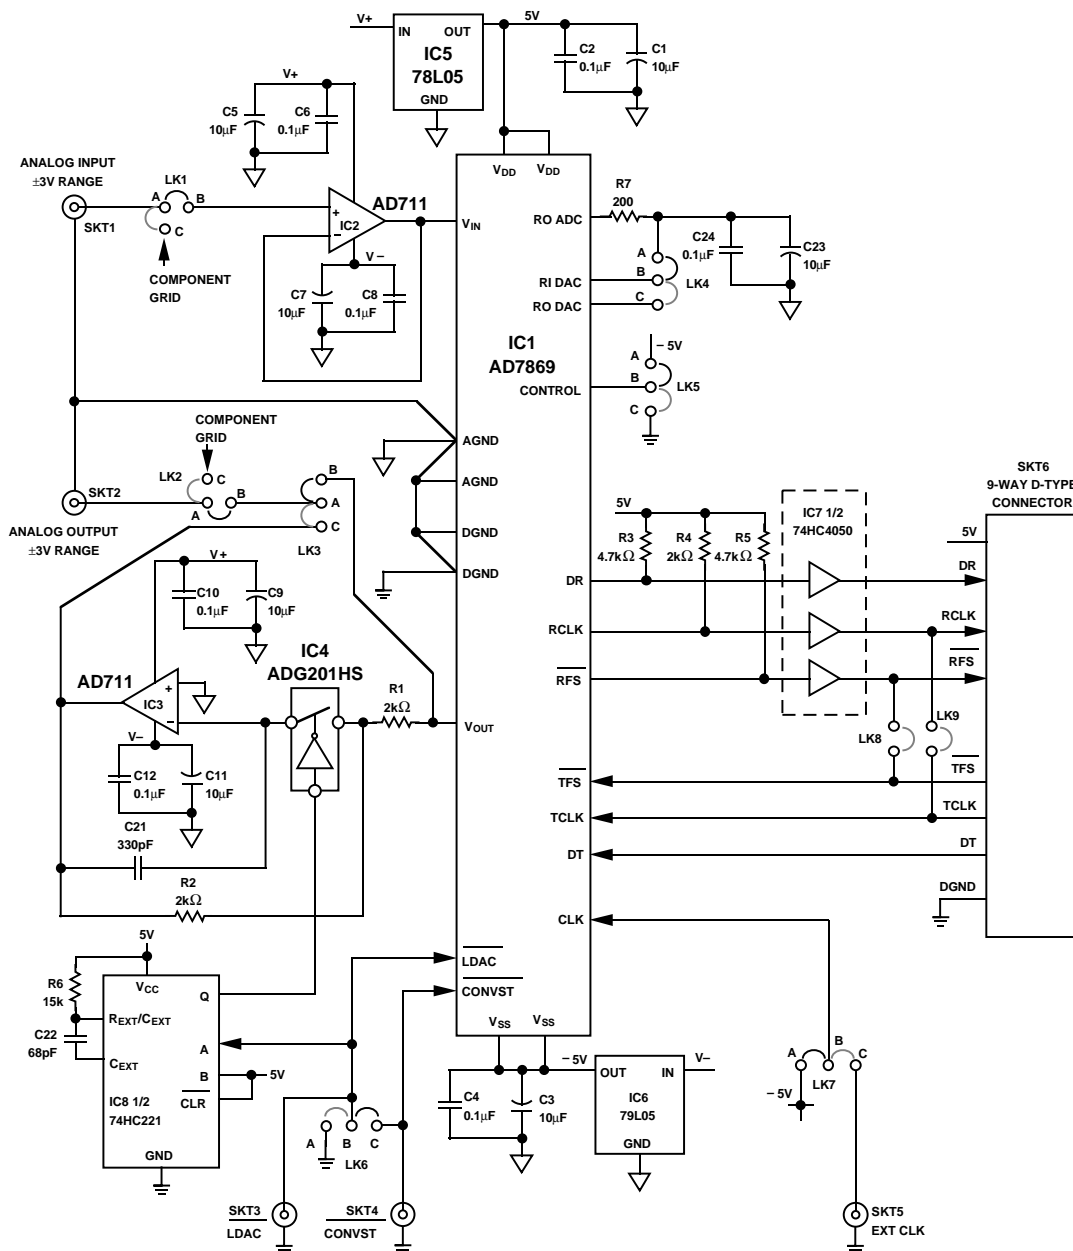
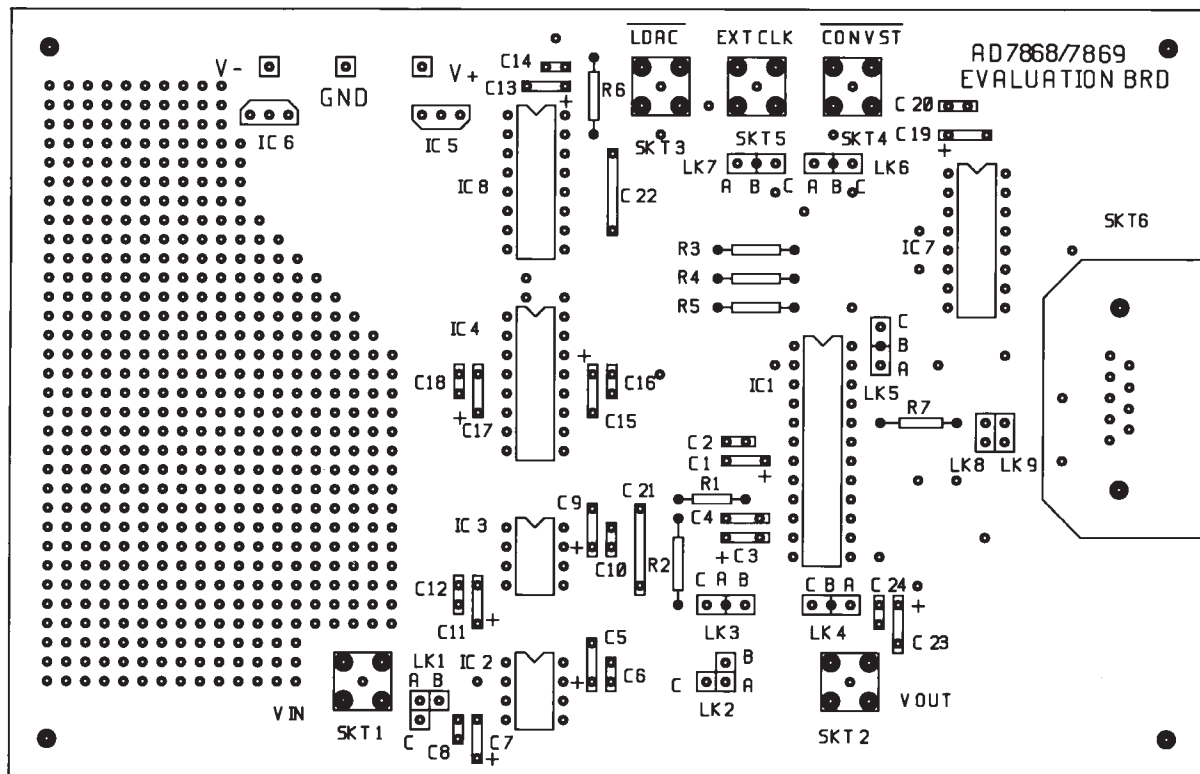

Figure 19. Input/Output Circuit Based on the AD7869
Figure 21. Silkscreen for the Circuit Diagram of Figure 19
Figure 19 shows an analog I/O board based on the AD7869. The corresponding printed circuit (PC) board layout and silkscreen are shown in Figures 21 to 23.
The PC board requires two analog power supplies and one 5 V digital supply. Connections to the analog supply are made directly to the PC board as shown on the silkscreen in Figure 21. The connections are labeled V+ and V-, and the range for both of these supplies is 12 V to 15 V. Connections to the 5 V digital supply are made through the D-type connector SKT6. The ± 5 V analog supply required by the AD7869 is generated from two voltage regulators on the V+ and V- supplies.